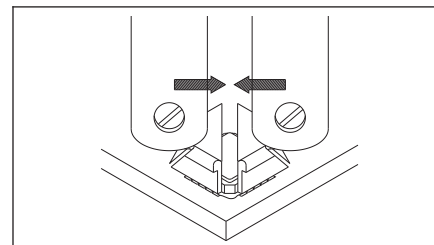

Figure 4 Melt All Joints
10. Contact ALL solder joints with tips, confirm solder melt of ALL joints, and lift component from PCB. (See Figures 4 & 5.)